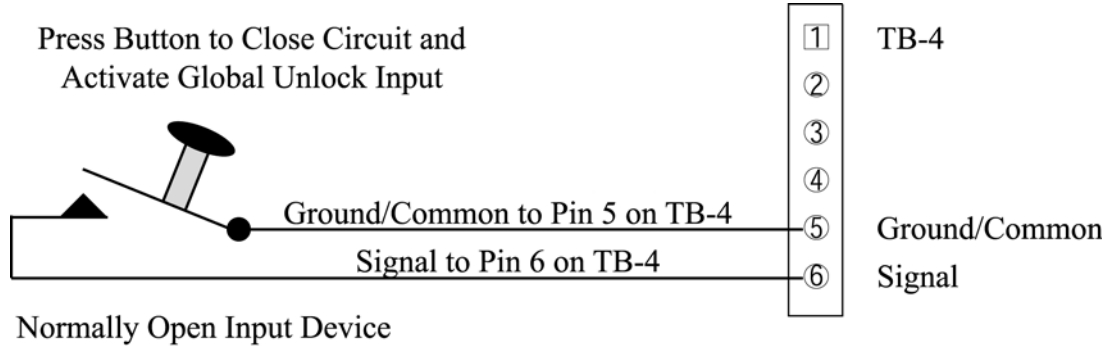
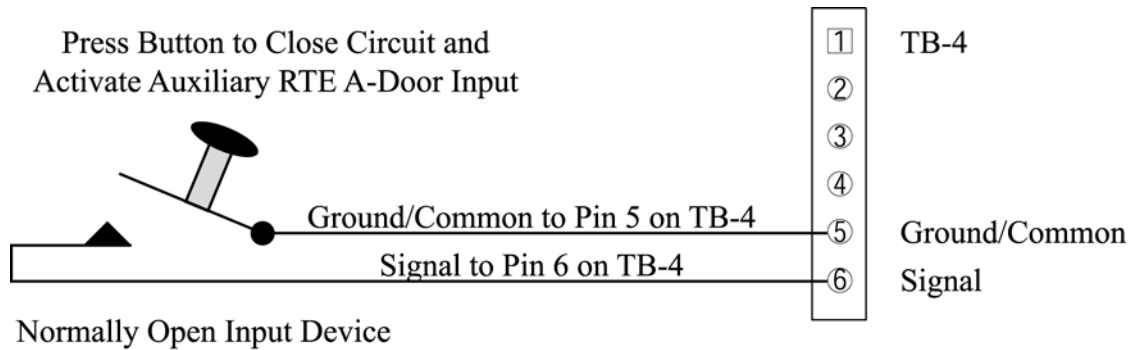

Figure 9: Global Unlock Input Connections
Figure 10: Auxiliary A-Door RTE Input Connections
- the master controller may be configured for either Global Unlock (see Figure 9) or Auxiliary A-door RTE (see Figure 10)
- the slave unit can only be configured for Auxiliary A-door RTE (see Figure 10)